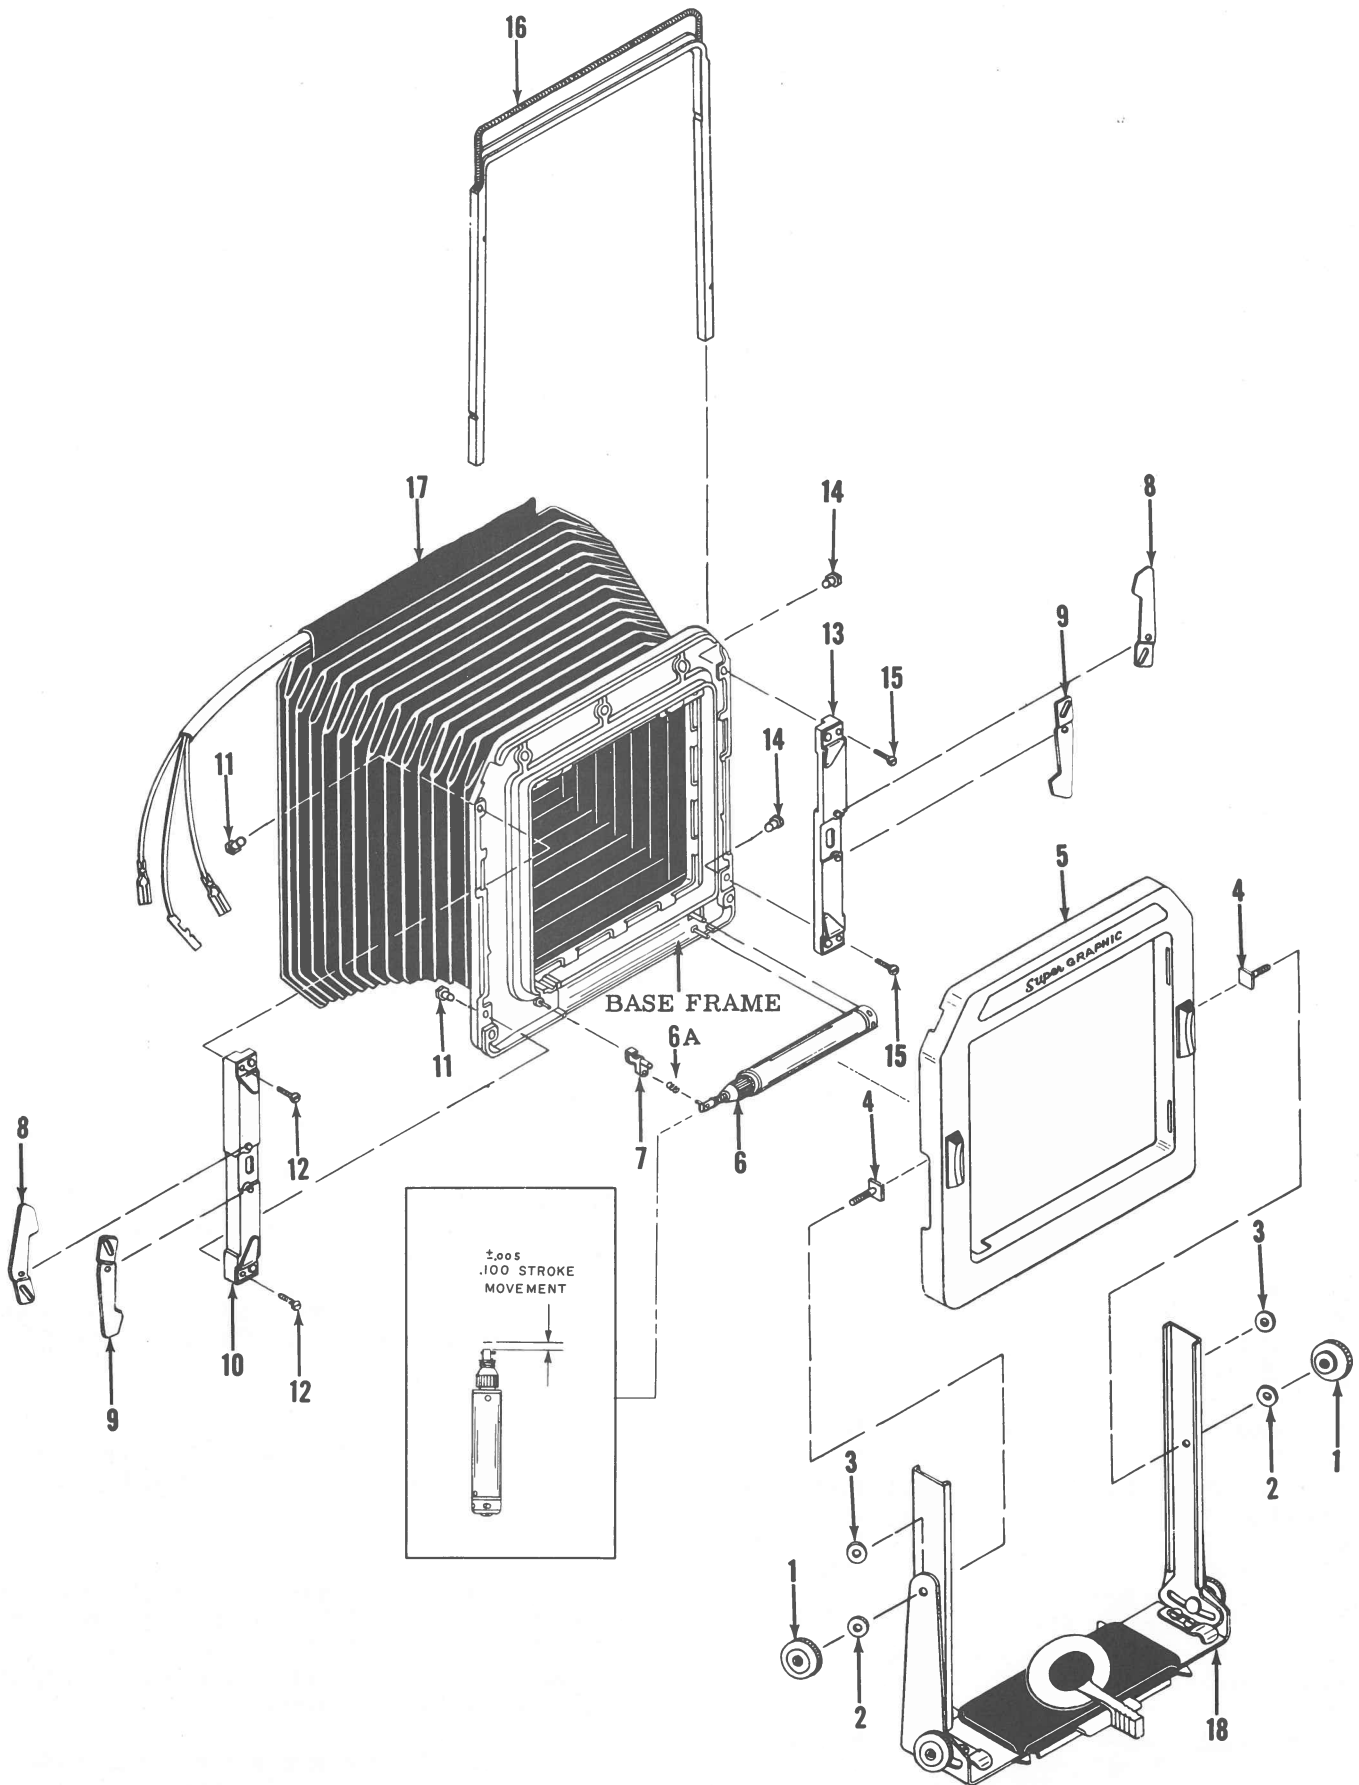

Figure 9. FRONT STANDARD COMPLETE
U. FRONT STANDARD COMPLETE - DISASSEMBLY AND REASSEMBLY (Figure 9)
a. Remove two locking knobs (1) and two flat washers (2).